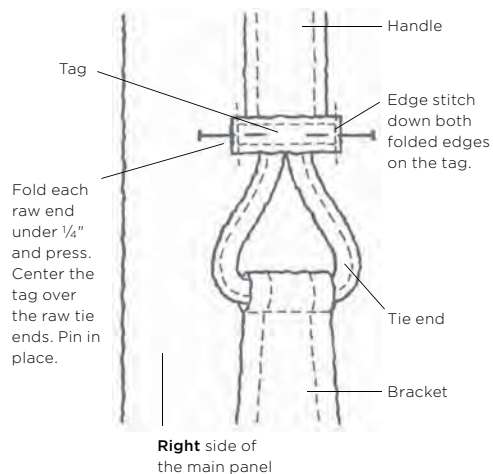

Figure 3
- Center the tag over the stitching that attached the handle and ties together, and pin in place. (See Figure 3.)